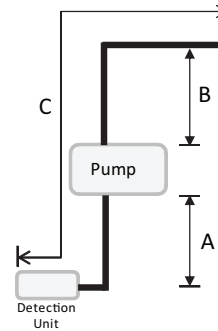

Fig. 2 – Maximum Lengths
The float switch in the detection unit also prevents overflow and can act as a safety device by shutting down the system. The detection unit comes with normally closed (NC) alarm contacts (user optional, but recommended). The normally closed alarm contact is a dry contact rated for 8 amps at 250 volts. In the event of a problem such as a clogged drain or pump discharge line, the alarm contact can be wired to shut down the entire system. The condensate pump provides 10 ft (3.0 m) maximum suction lift (A)-Fig. 2.
| Refer to Fig. 2 for (A), (B), (C) | | Total tube length, 1/4" flexible hose (C) ft | | | |